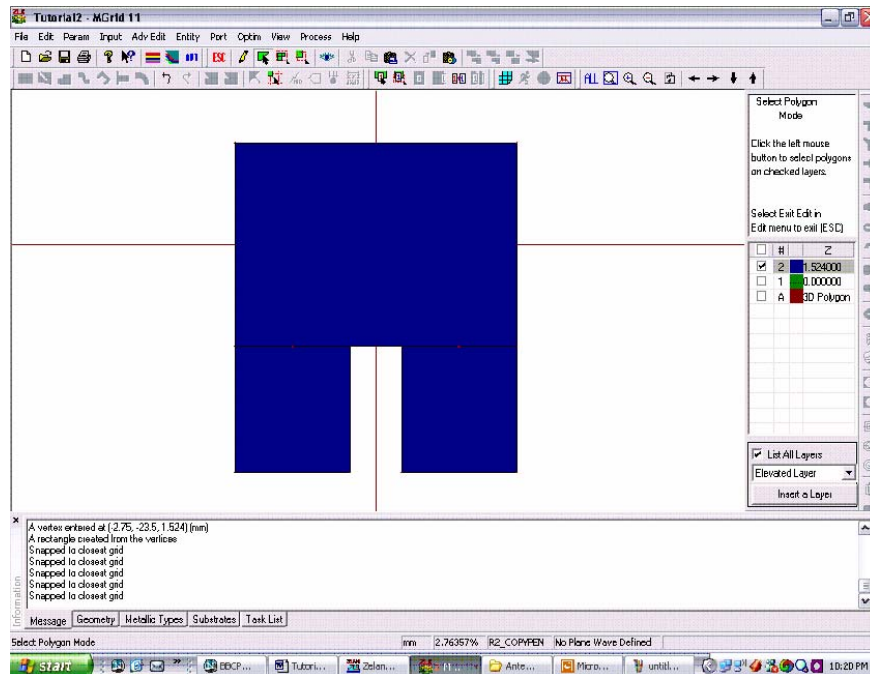

Figure 13.
- 15) Enter 17.75 in the X-offset field and 0 in the Y-offset field and press OK. Your screen should look like Figure 13.